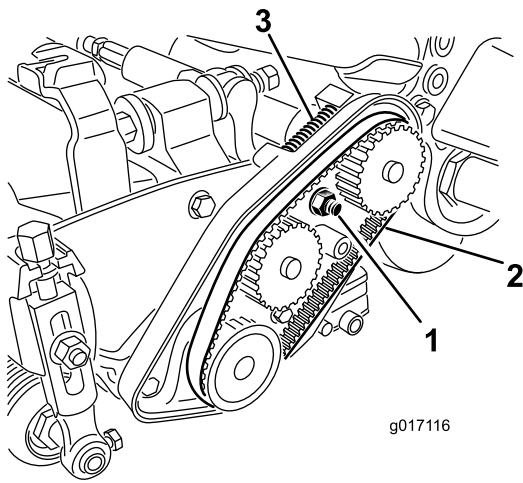

Figure 17
3. Loosen the bearing-housing nut (Figure 17).
5. Remove the belt (Figure 17).
12. Ensure that the compression spring is applying tension to the belt (Figure 17).